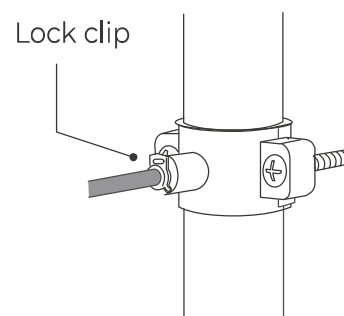

Figure 10
- e. Pop the lock clip onto the fitting to secure the connection (**Figure 10**).